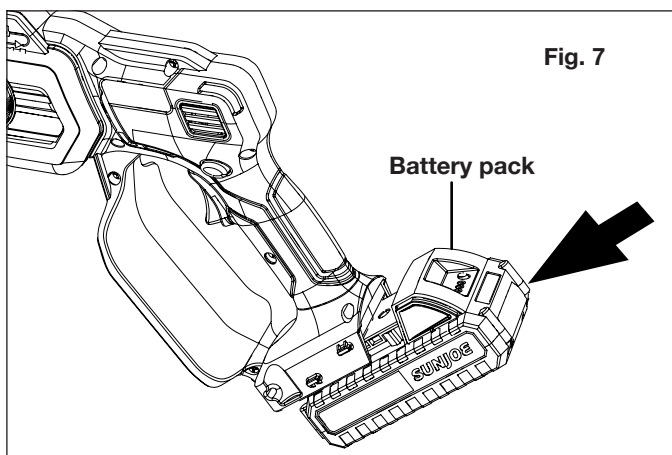

Fig. 7
2. Insert the battery in the battery compartment. Push to make sure it is locked in place (Fig. 7).